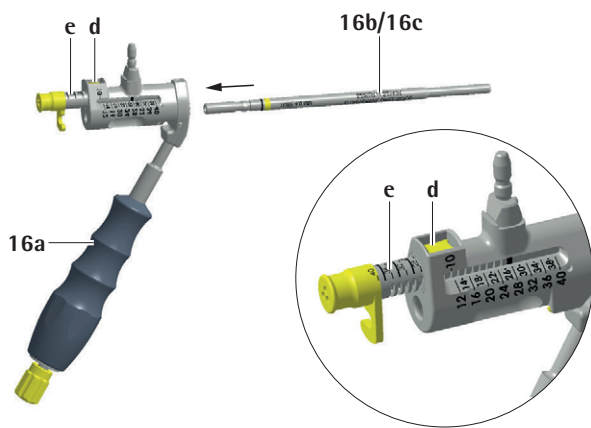

Fig. 1
- ▶ Attach the tube to the drill guide body **16a**, see Fig. 1.